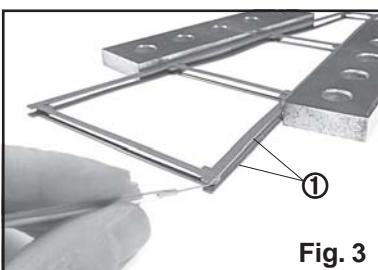

Fig. 3
1. Cement two **bent halves** (1) together. Be sure the edges of both **bent halves** are flush with one another. See fig 3.